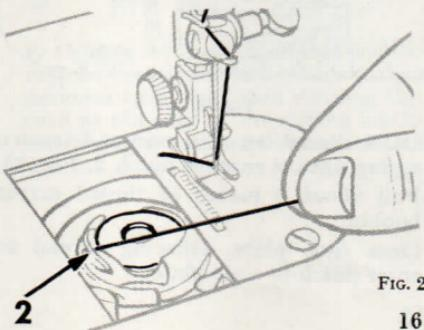

FIG. 29.
- Draw thread between bobbin case and tension spring until it reaches notch 2, Fig. 29.